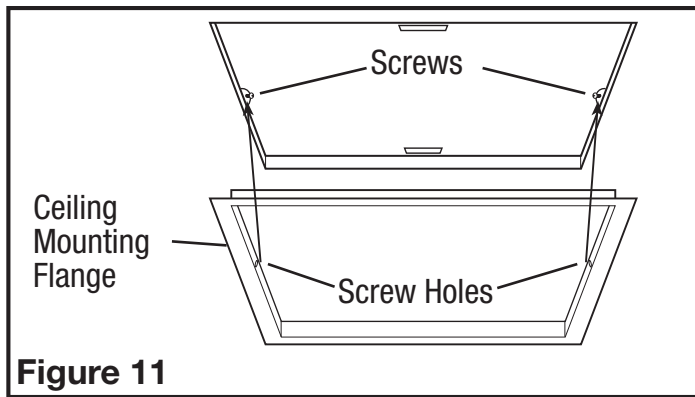

Figure 11
NOTE: If the mounting flange is installed on the fan housing, remove the two screws that connect the ceiling mounting flange to the housing and set aside (Figure 11).
4. Install the ceiling mounting flange to cover any gaps which exist between the housing and the finished ceiling. Put sealant (not provided) on inside edge of the ceiling mounting flange to ensure that the flange is sealed to the ceiling. Line up the screw holes in the ceiling mounting flange with the screw holes on the inside of the housing and press flange in place so it is tight against the ceiling. Reinstall ceiling flange mounting screws inside the housing (**Figure 11**).